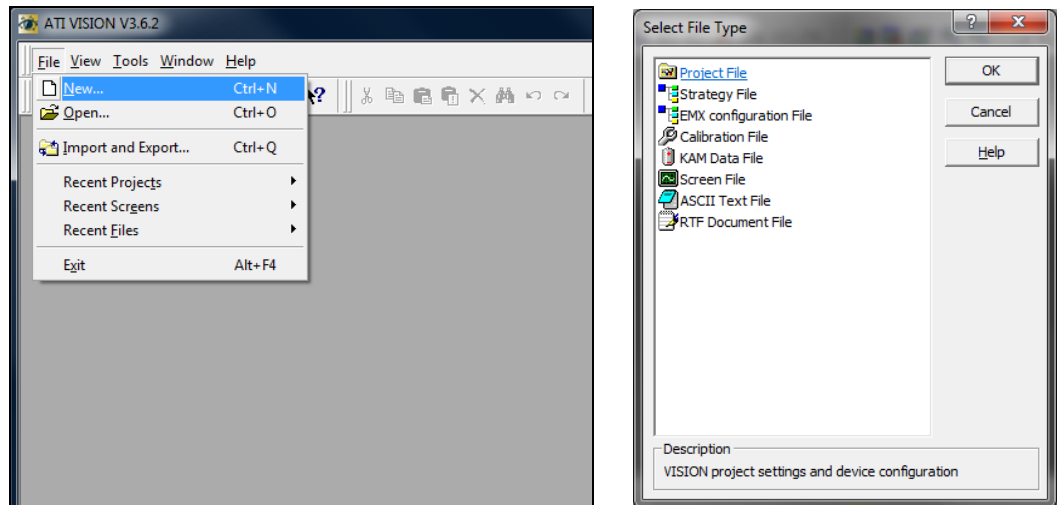

**Figure 2: ECM Configuration Tool**
To connect a PC to the CAN connector on the back of an analyzer requires the supplied cables (see Figure 2) and a USB-to-CAN adapter. Make sure the CAN bus is properly terminated. The following adapters are supported: Kvaser, ETAS, Peak USB to CAN adapters, and the VectorCAN CAN adapter card. Driver software for one of these adapters must be installed prior to using the Configuration Tool. Driver software will be supplied with the adapter or be available on-line.
3. Select CAN adapter from drop down menus as shown in Figure 2, and click START.